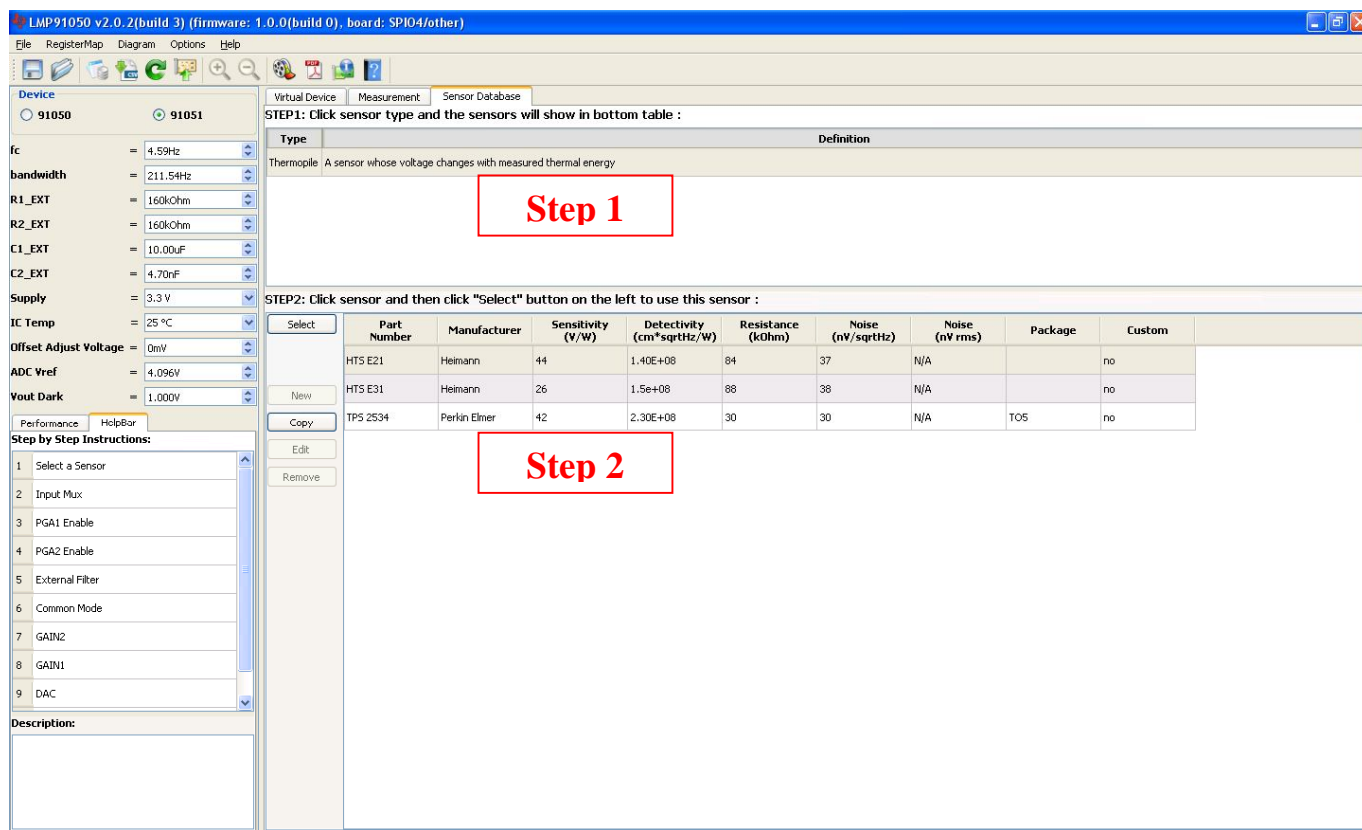

Figure 6: Sensor Database Window
1. Step 1: Select a Sensor – Sensor Database window opens. See Figure 6. Step 1: Click sensor type (Thermopile) and the sensors will show in the bottom table. Step 2: Click sensor and then click “**Select**” button on the left to use this sensor.